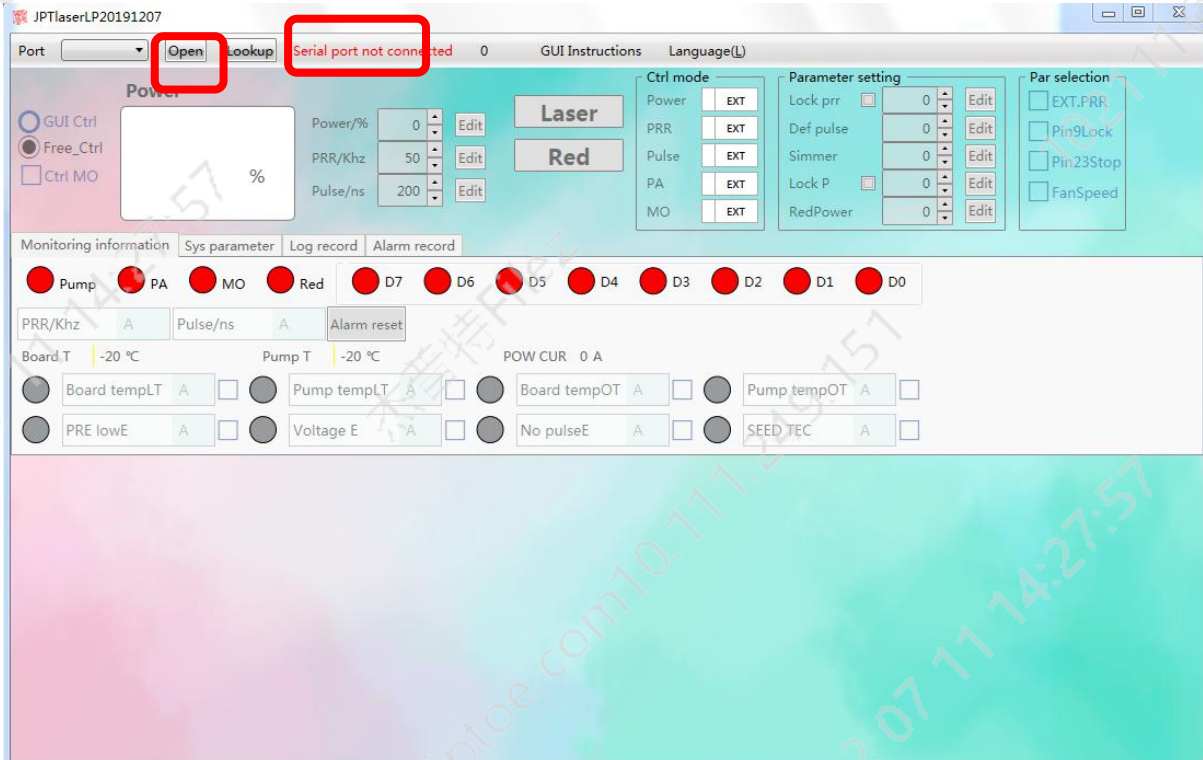

Figure 14 GUI Disconnected State
- The Pin22 signal needs to be turned on 10us in advance before sending Pin2 and Pin3 signals. After finished pulse width adjustment, Pin2 and Pin3 signals need  $\geq 10\mu\text{s}$  delay before turning off Pin22 signal (as shown in Figure 14).